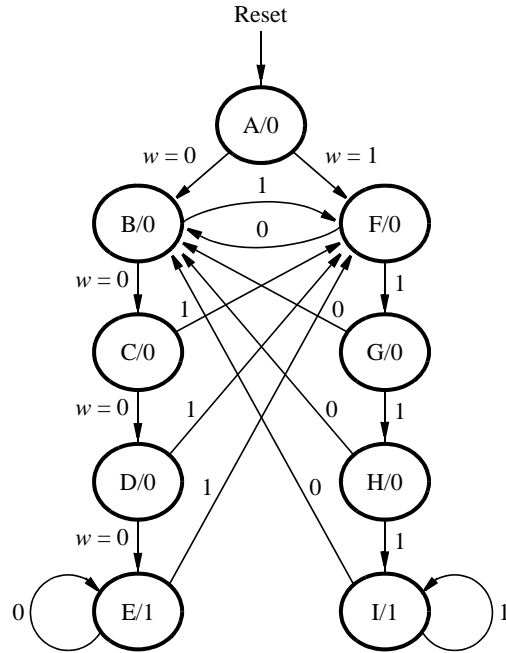

Figure 2: A state diagram for the FSM.
A state diagram for this FSM is shown in Figure 2. For this part you are to manually derive an FSM circuit that implements this state diagram, including the logic expressions that feed each of the state flip-flops. To implement the FSM use nine state flip-flops called  $y_8, \dots, y_0$  and the one-hot state assignment given in Table 1.
For this part you are to write another style of Verilog code for the FSM in Figure 2. In this version of the code you should not manually derive the logic expressions needed for each state flip-flop. Instead, describe the state table for the FSM by using a Verilog **case** statement in an **always** block, and use another **always** block to instantiate the state flip-flops. You can use a third **always** block or simple assignment statements to specify the output  $z$ . To implement the FSM, use four state flip-flops  $y_3, \dots, y_0$  and binary codes, as shown in Table 3.
4. Compile your project. To examine the circuit produced by Quartus open the RTL Viewer tool. Double-click on the box shown in the circuit that represents the finite state machine, and determine whether the state diagram that it shows properly corresponds to the one in Figure 2. To see the state codes used for your FSM, open the **Compilation Report**, select the **Analysis and Synthesis** section of the report, and click on **State Machines**.